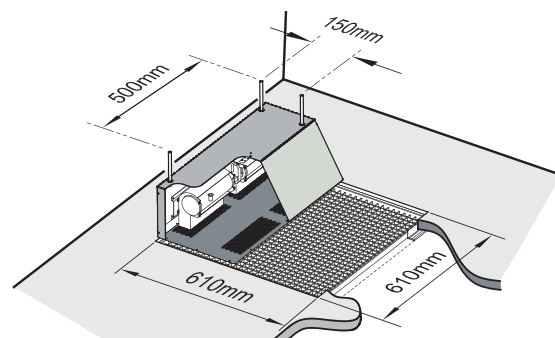
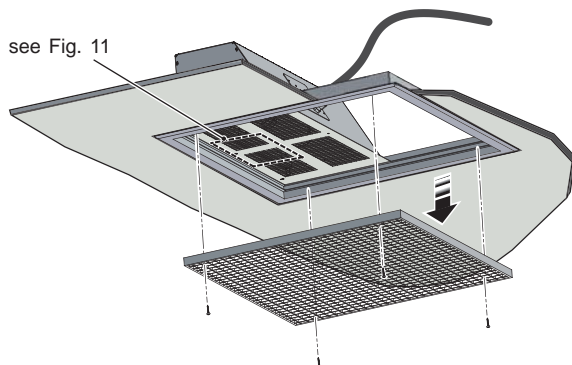
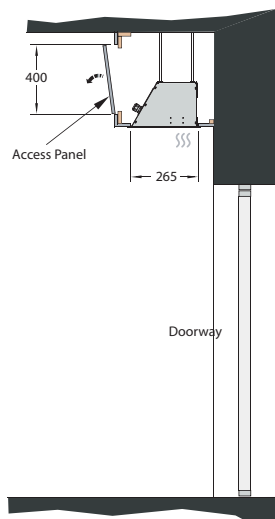
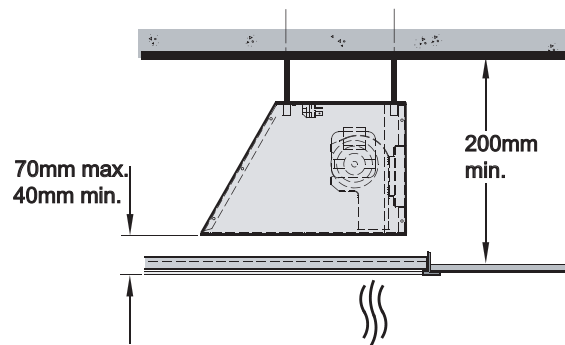

Fig. 1
Fig. 6
Fig. 7
Fig. 8
This heater can either be installed into a suspended or plasterboard ceiling. First it is necessary to ensure that 200mm of sufficient space exists above the ceiling for the Installation of this product (see **Fig. 1** and **Fig. 7**).
A hole (610x610mm) as indicated in **Fig. 1** and **Fig. 6** must be cut into the ceiling.
To mount the unit into the ceiling void, use lengths of threaded bar or hooks (not supplied) screwed into the M8 threaded inserts located in the top side of the heater (see **Fig. 1** for dimensions). Adjust the height of the heater so the air inlet/outlet panel is positioned inside the grille frame and no more than 70mm above the installed height of the egg crate grille which allows access for future maintenance. The unit should also be positioned inside the grille opening to achieve optimum air-flow effect, as shown in **Fig. 8**.
A hole (576x265mm) as indicated in **Fig. 7**, must be cut into the ceiling of the bulk head. Drop rods should be used to mount the appliance in such a position, as to have the base flush with the ceiling. An access panel should also be provided on the front of the bulkhead. This provides access to the top of the appliance and the access plate for wiring the appliance.
1. Use suitable length M8 threaded bar and screw into the threaded inserts provided on the top of the heater - see **Fig. 1** for dimensions.